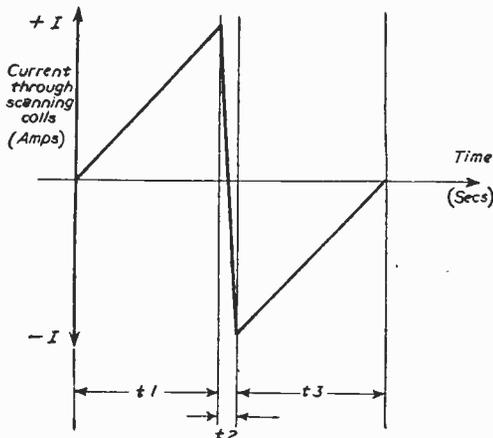

Fig. 31.—Variation of current through L with time.
L. represents the scanning coils and C the stray and self capacitance associated with these coils. The resistance of the coils is shown as r. Consider the sequence of events when the switch S is closed. Current I will flow through Lr and increase exponentially, at a rate governed by the L/r time-constant. As mentioned earlier, if the rise is only a small fraction of the maximum current  $I_{max} = E/r$  then it can be considered as a linear increase of current with time. After a short interval t1 (see Fig. 31) the switch is opened and this current rise ceases, after reaching a maximum value +I amps (small compared with I max.). Energy has, however, been stored in the inductance L and causes current to flow out of L into the capacitance C during time t2. The direction of current through L has now been reversed and when it has reached a value of -I amps., then switch S is closed once more. The charge acquired by C during time t2 is now used to charge the battery E, whilst the current in L gradually reduces to zero during a time t3, again with a time-constant L/r.